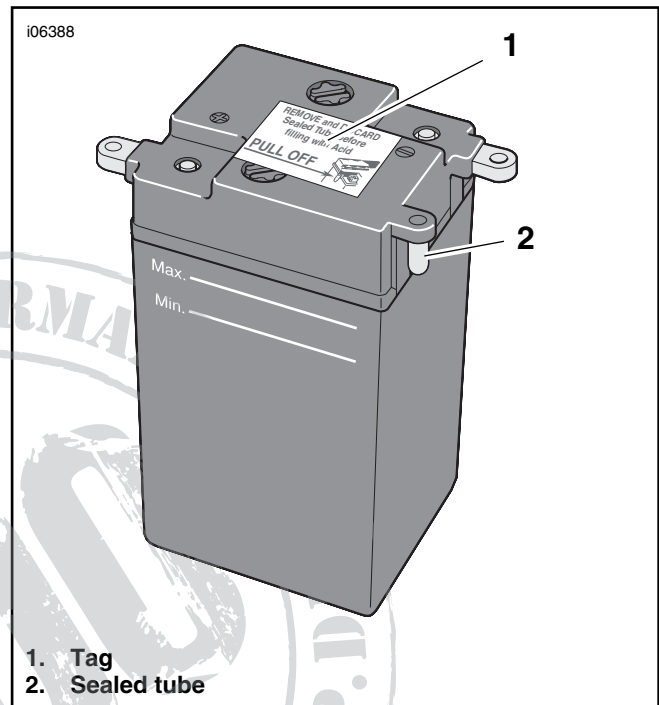

Figure 1. Reminder Tag/Sealed Shipping Tube
2. See Figure 1. Remove reminder tag from battery. Remove sealed tube from battery vent elbow.